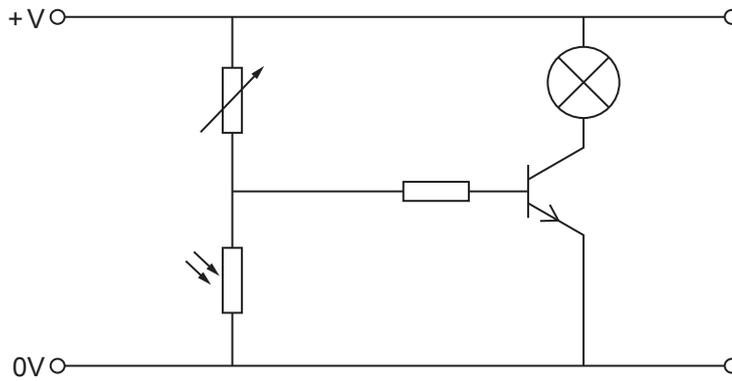

Fig. 9
- 8 (a) Fig. 9 shows an electronic circuit for a school project. Name and identify the **Input**, **Process** and **Output** component symbols shown in Fig. 9 by completing Table 3.
- (b) Explain the operation of the circuit shown in Fig. 9 ensuring that the purpose of each component in the circuit is considered.